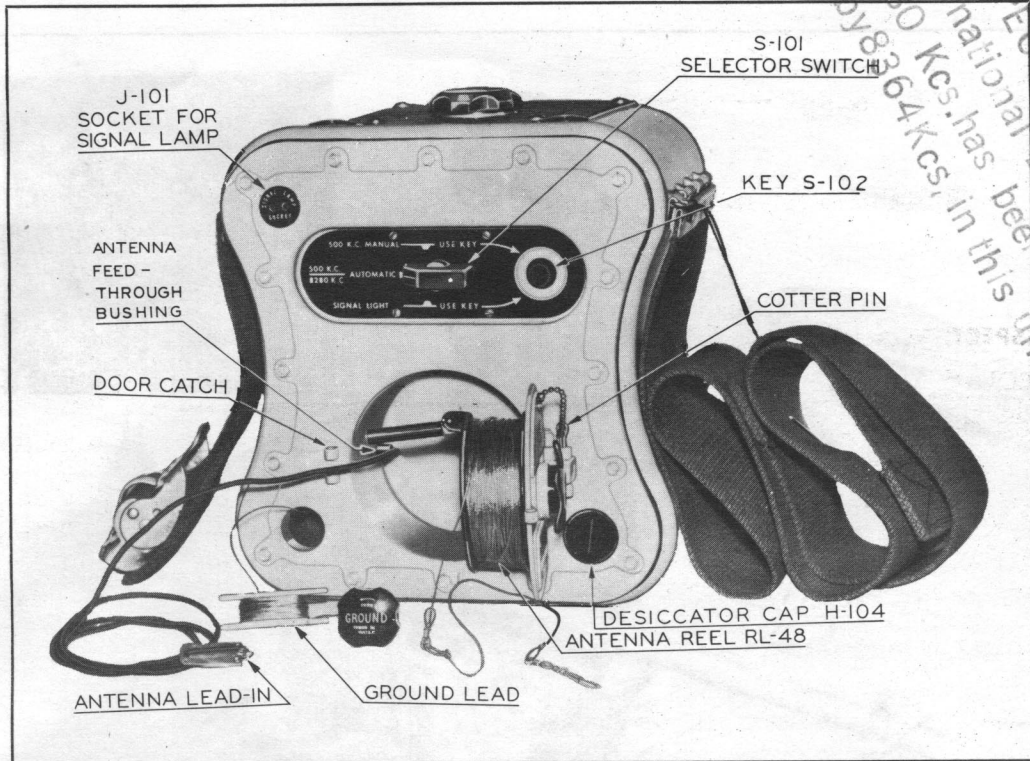
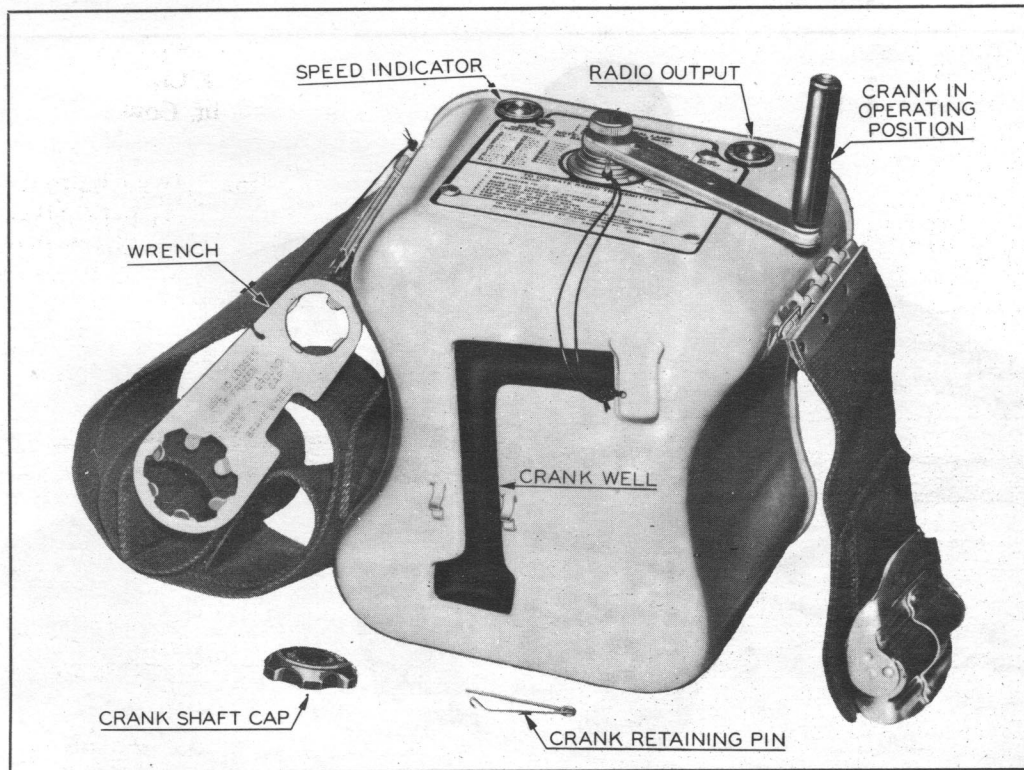

Figure 2-1. Radio Transmitter T-74/CRT-3—Front View
Figure 2-2. Radio Transmitter T-74/CRT-3—Rear View
b. Remove the cotter pin and open the door on the front panel of the transmitter. (See fig. 2-1.) Keep the door open by sliding the cotter pin into the holes provided on the door hinges. Take enough slack wire from the reel fastened to the back of this door to reach the kite or the balloon. Rotate the "BRAKE" knob clockwise to maintain a slight tension on the reel. Use the wrench attached to the belt to loosen the brake if it cannot be turned by hand. (See fig. 2-2.)
c. Unscrew the cap marked "GROUND" and remove the groundwire reel. (See fig. 2-1.) If necessary, use the wrench attached to the transmitter to loosen the cap. Unwind the wire and play it out into the water, using the cap as a weight to keep it submerged.
i. Remove the cap located at the top center of the transmitter, making the crank socket available. If necessary, use the wrench attached to the transmitter to loosen the cap. (See fig. 2-1.) In the well on the back of the transmitter is Hand Crank GC-18-A. (See fig. 1-3.) It is fastened to the case by a leash and is made available by the removal of the locking pin. The leash is long enough to enable the crank to reach the socket and must not be broken. Insert the crank into its socket and tighten the thumb screw. Save the cap, it should be replaced if the crank is removed.
(1) Set the selector switch pointer to "500 K.C.-8280 K.C.-AUTOMATIC." (See fig. 2-1.)
(2) To start transmission rotate the crank (see fig. 2-2) in a clockwise direction at approximately 80 to 100 revolutions per minute. When sufficient speed has been attained the lamp marked "SPEED INDICATOR KEEP LIGHTED" (see fig. 2-2) located on the top of the transmitter will light. Faster crank speeds are ineffective since the transmitter contains automatic voltage regulation, and undesirable since they will speed up the transmitter code characters.
(3) Continue cranking. Allow at least 20 seconds for the filaments of the vacuum tubes to heat, after which time the "RADIO OUTPUT" light should flash on and off with the keying of the transmitted signal. There are no further adjustments.
(4) In the "500 K.C.-8280 K.C.-AUTOMATIC" selector switch position, the transmitter automatically sends a signal consisting of six groups of "SOS" followed by a sustained dash of about 20 seconds duration. This occurs first on 500 kilocycles and then on 8280 kilocycles, automatically switching from one frequency to the other about every 40 or 50 seconds.